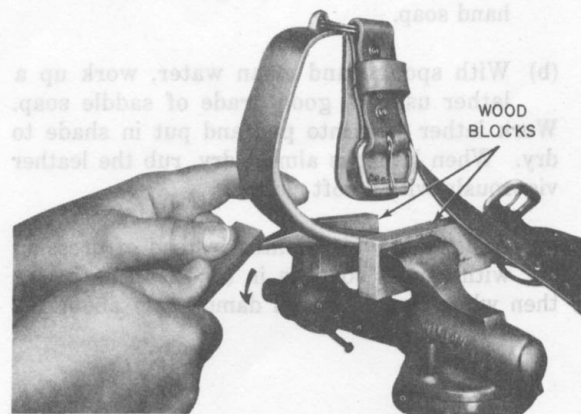

Fig. 20—Using Vise for Honing Gaffs
**7.06** When using a vise to hold a climber, always protect the leg iron by placing wood blocks between the vise jaws and the leg irons as shown in Fig. 20. This prevents scoring the leg iron which may weaken it.